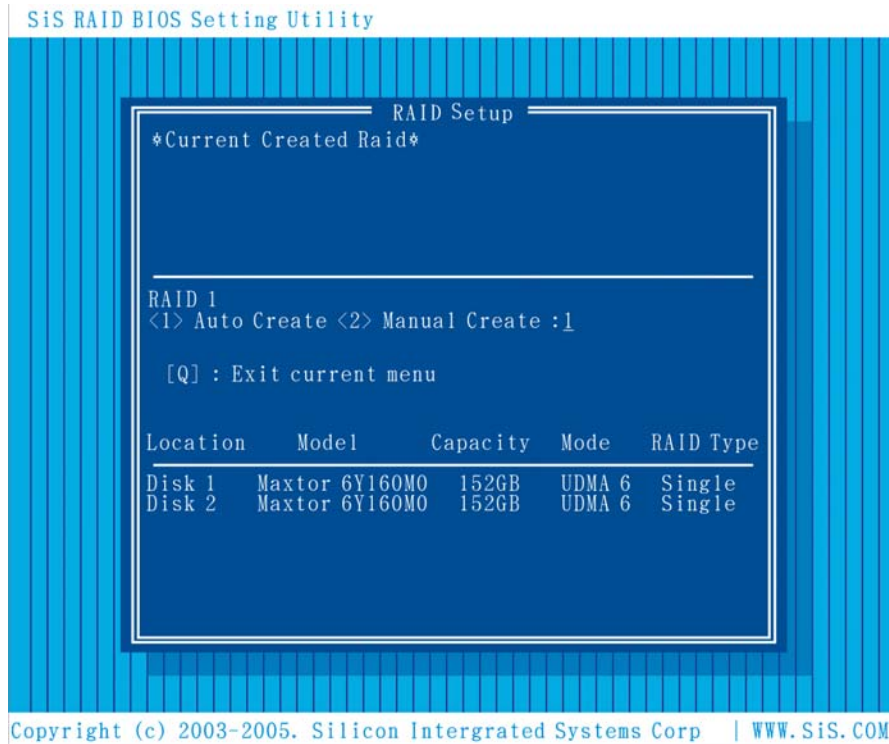

Figure 8-9: RAID 1 Configuration
Step 2: The screen in **Figure 8-9** appears.